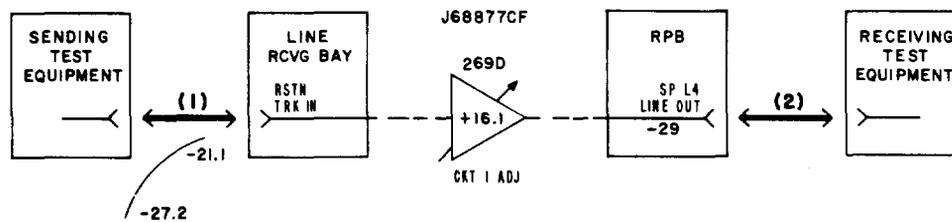

Fig. 6—Receiving Restoration Trunk for Spare L4 Line
4	Make patches designated (1) and (2) in Fig. 6.